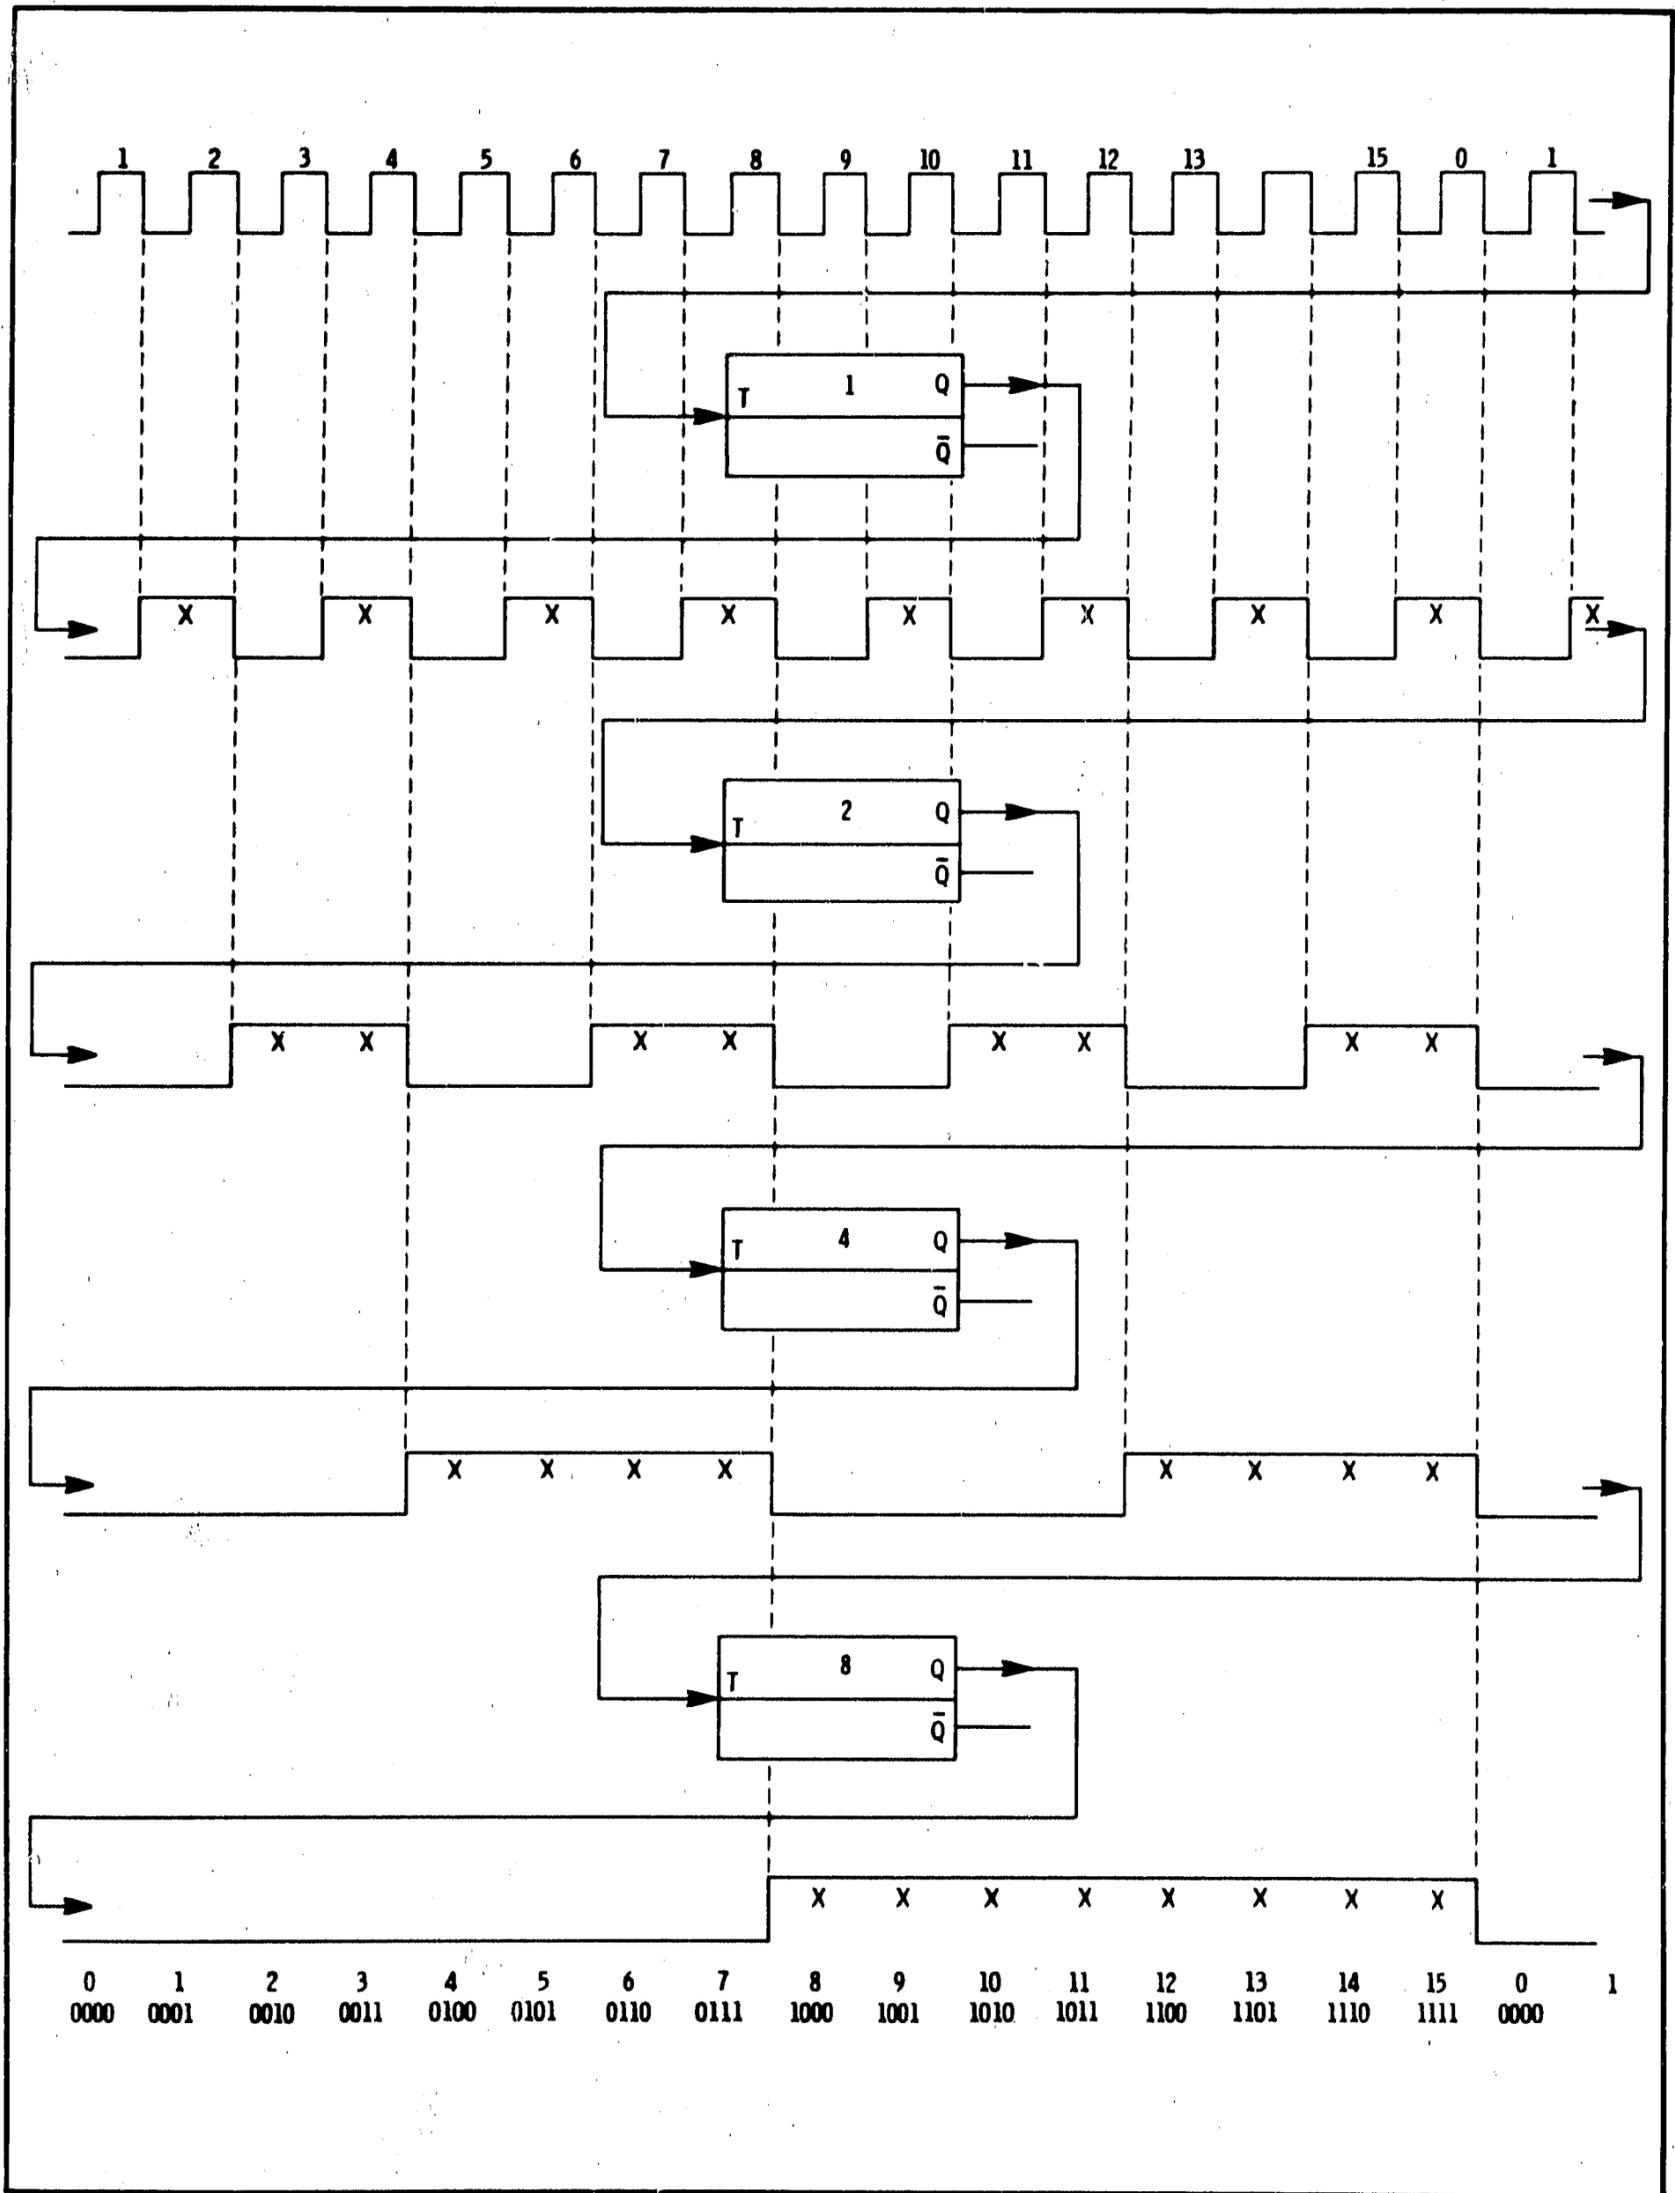
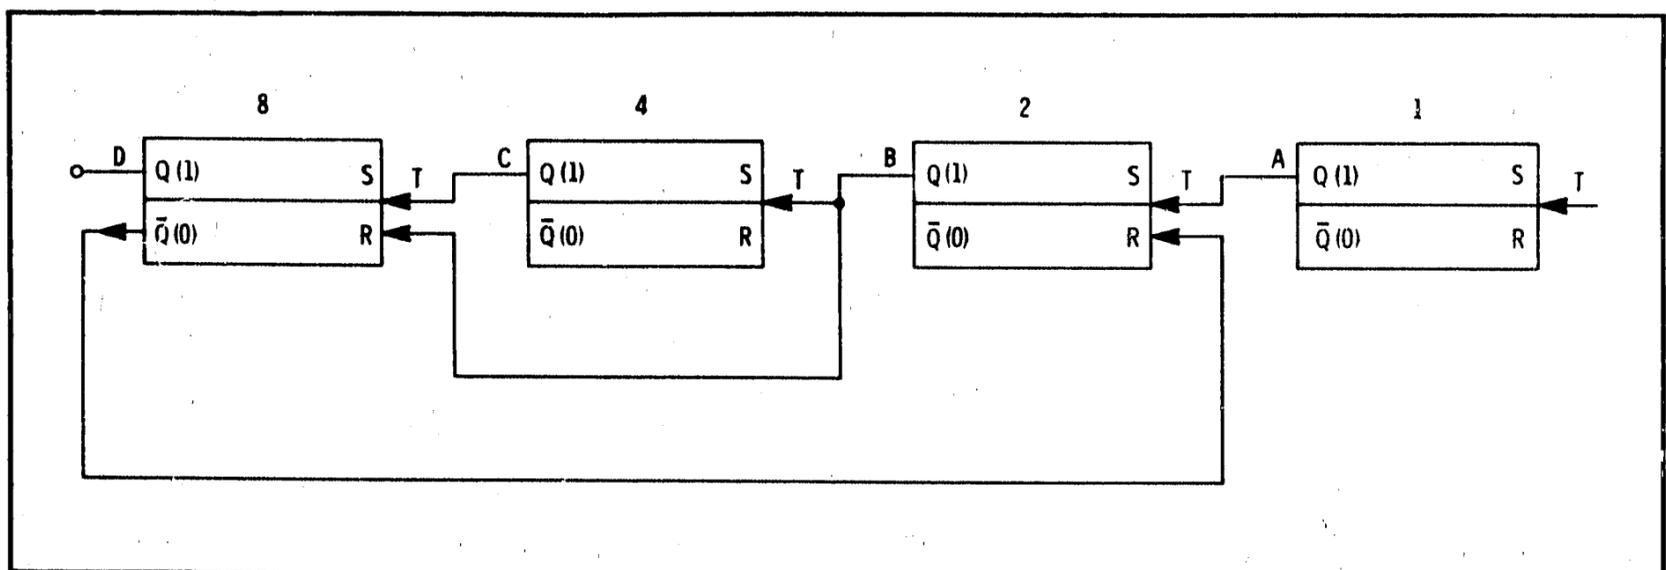

Figure 8-11. 16 Counter Binary Counter Chain
Figure 8-12. 8421 BCD Decade Counter
8-42. In frequency counters the decimal numbers 0 through 9 are displayed on each readout device. For this reason, only binary numbers 0000 through 1001, which correspond to decimal numbers 0 through 9 will be discussed in this text. The only exception to this is the discussion of Figure 8-11 which follows.
8-43. Figure 8-11 illustrates four triggered flip-flops in series, with the Q outputs of the first three driving the trigger inputs of the next flip-flop. Since each flip-flop is triggered only by negative going excursions of the input signal, each provides one cycle of output signal for two cycles of input signal. The flip-flops, then, are weighted in ascending powers of two. The first flip-flop has a weighted value of 2^0 (1), the second has a weighted value of 2^1 (2), the third has a weighted value of 2^2 ($2 \times 2 = 4$) and the fourth has a weighted value of 2^3 ($2 \times 2 \times 2 = 8$).
8-44. Assume that initially the flip-flops in Figure 8-11 were all set to 0 (Q low). When seven input cycles have been received the flip-flops have operated as follows; the first has been turned on (Q high) by inputs 1, 3, 5 and 7, and turned off
8-45. As the timing diagram in Figure 8-11 indicates, four flip-flops in this configuration are capable of counting up to 16. Since only the decimal digits 0 through 9 are used in counter circuits, a means must be provided to limit the count to ten. A means must also be provided to reset the flip-flops to zero before beginning a new count. The means by which these facilities are provided are discussed in later paragraphs.
8-47. A Simple 8421 BCD Code Decade Counter. Figure 8-12 illustrates a simplified decade counter using triggered RS flip-flops. This circuit operates like the circuit shown in Figure 8-11 up through decimal count 9 (binary 1001). When the tenth pulse is received at the input flip-flop point A goes low, flip-flop point B goes high and the flip-flops are temporarily in the 1010 state. Almost immediately the output from B